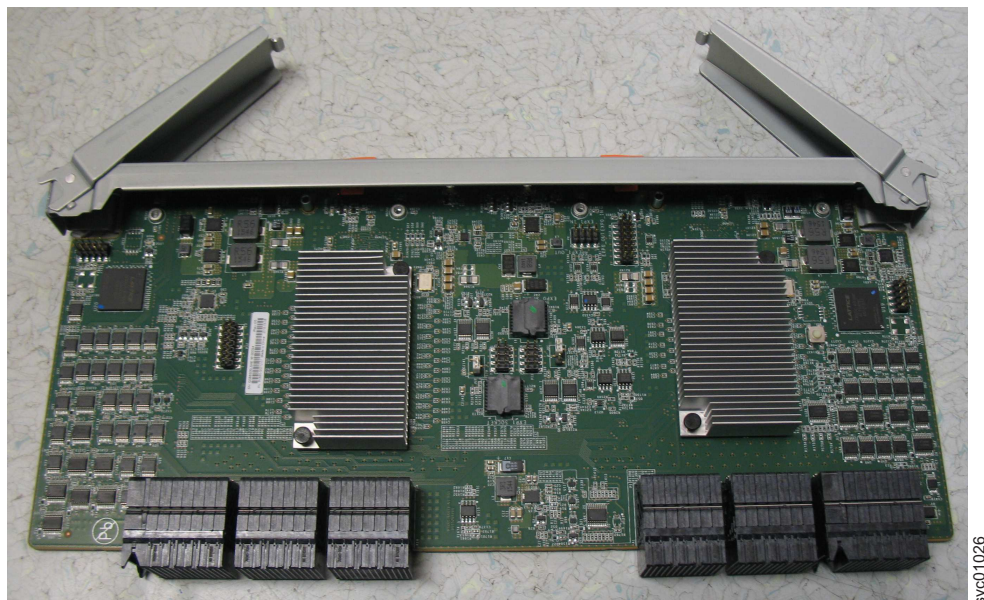

Figure 59. Open the secondary expander module handles
- 3. Rotate both handles on the new secondary expander module to an open position, as shown in Figure 59.